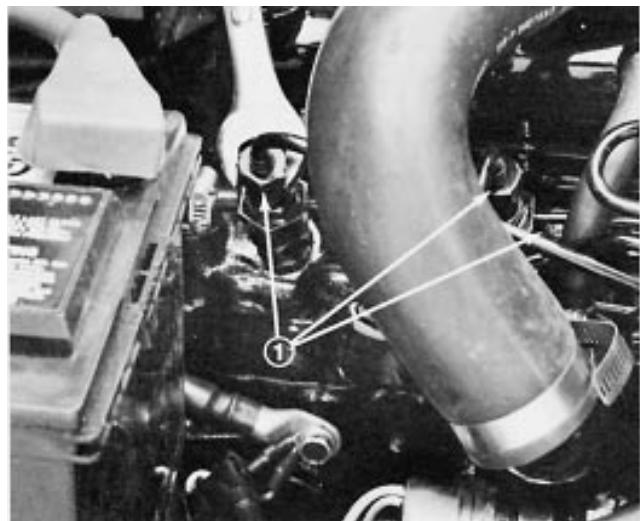

Figure 35
- Loosen the pipe connection to the No. 1 nozzle and holder assembly (Fig. 35).